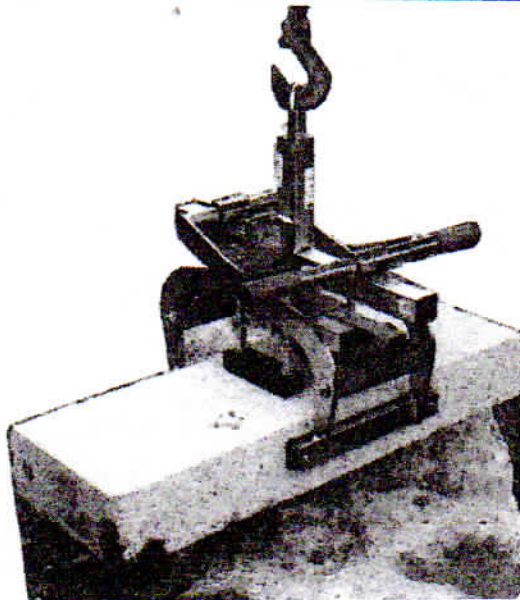

Fig. 1
- Adjust the “height adjustable support (A) with the adjusting screws and regard the both “height adjustable supports (A)” have the same height and that the rubber gripper bars are positioned in the middle area of stone thickness. → see Fig. 1